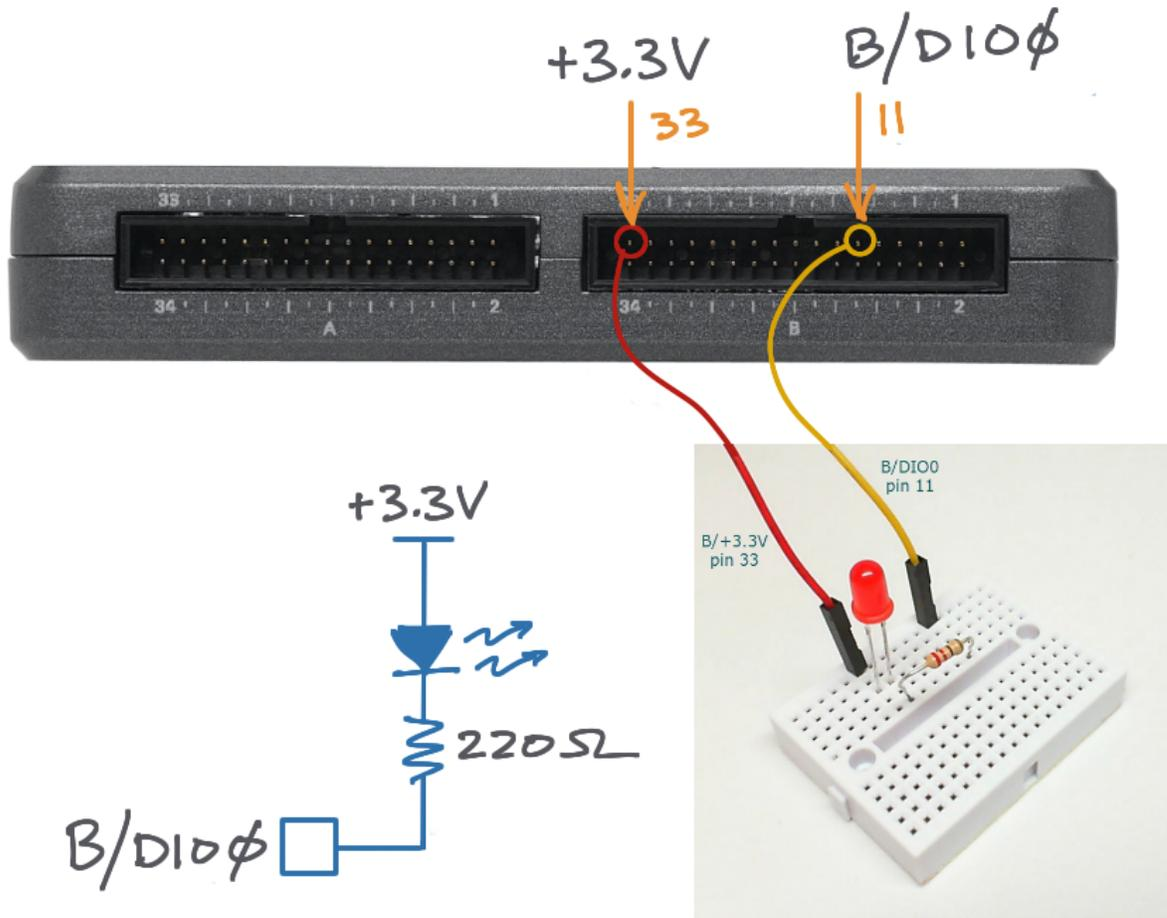

Figure 2.2: Demonstration circuit for discrete LED: schematic diagram, recommended breadboard layout, and connection to NI myRIO MXP Connector B.
**Build the interface circuit:** Refer to the schematic diagram and recommended breadboard layout shown in Figure 2.2 on the following page. The discrete LED interface circuit requires two connections to NI myRIO MXP Connector B: